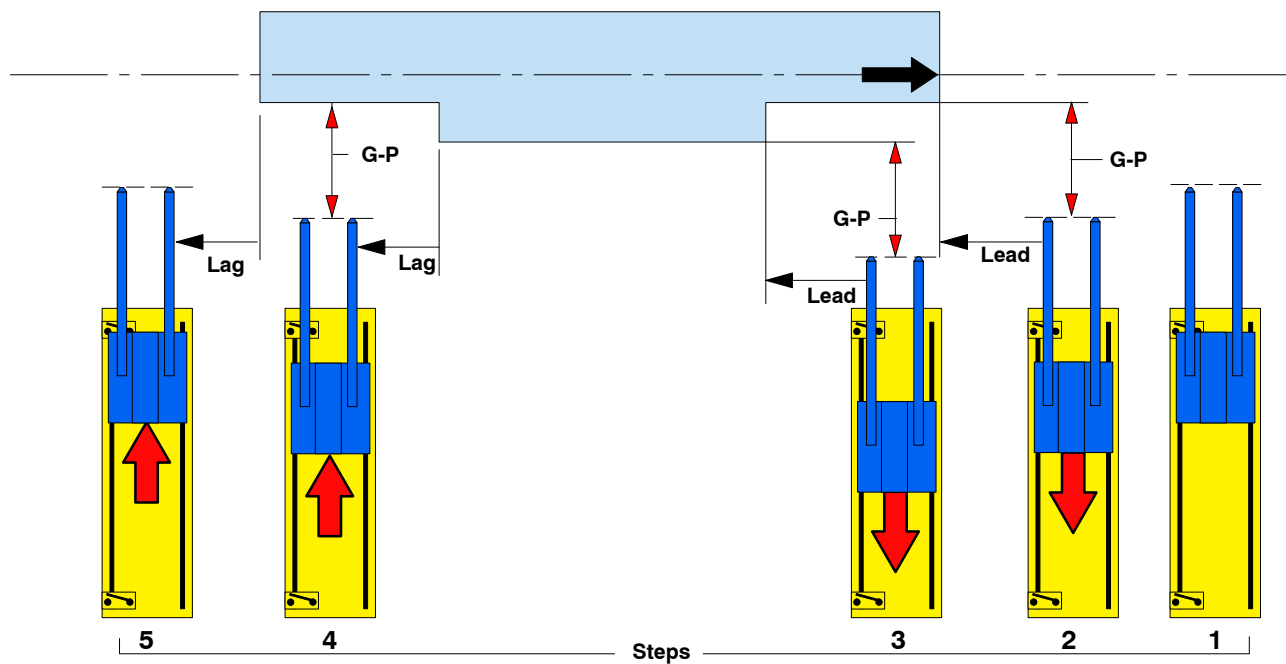

Figure 6-3 Variable Positioning – Contouring
1. See Figure 6-3. The positioner waits at the configured position.